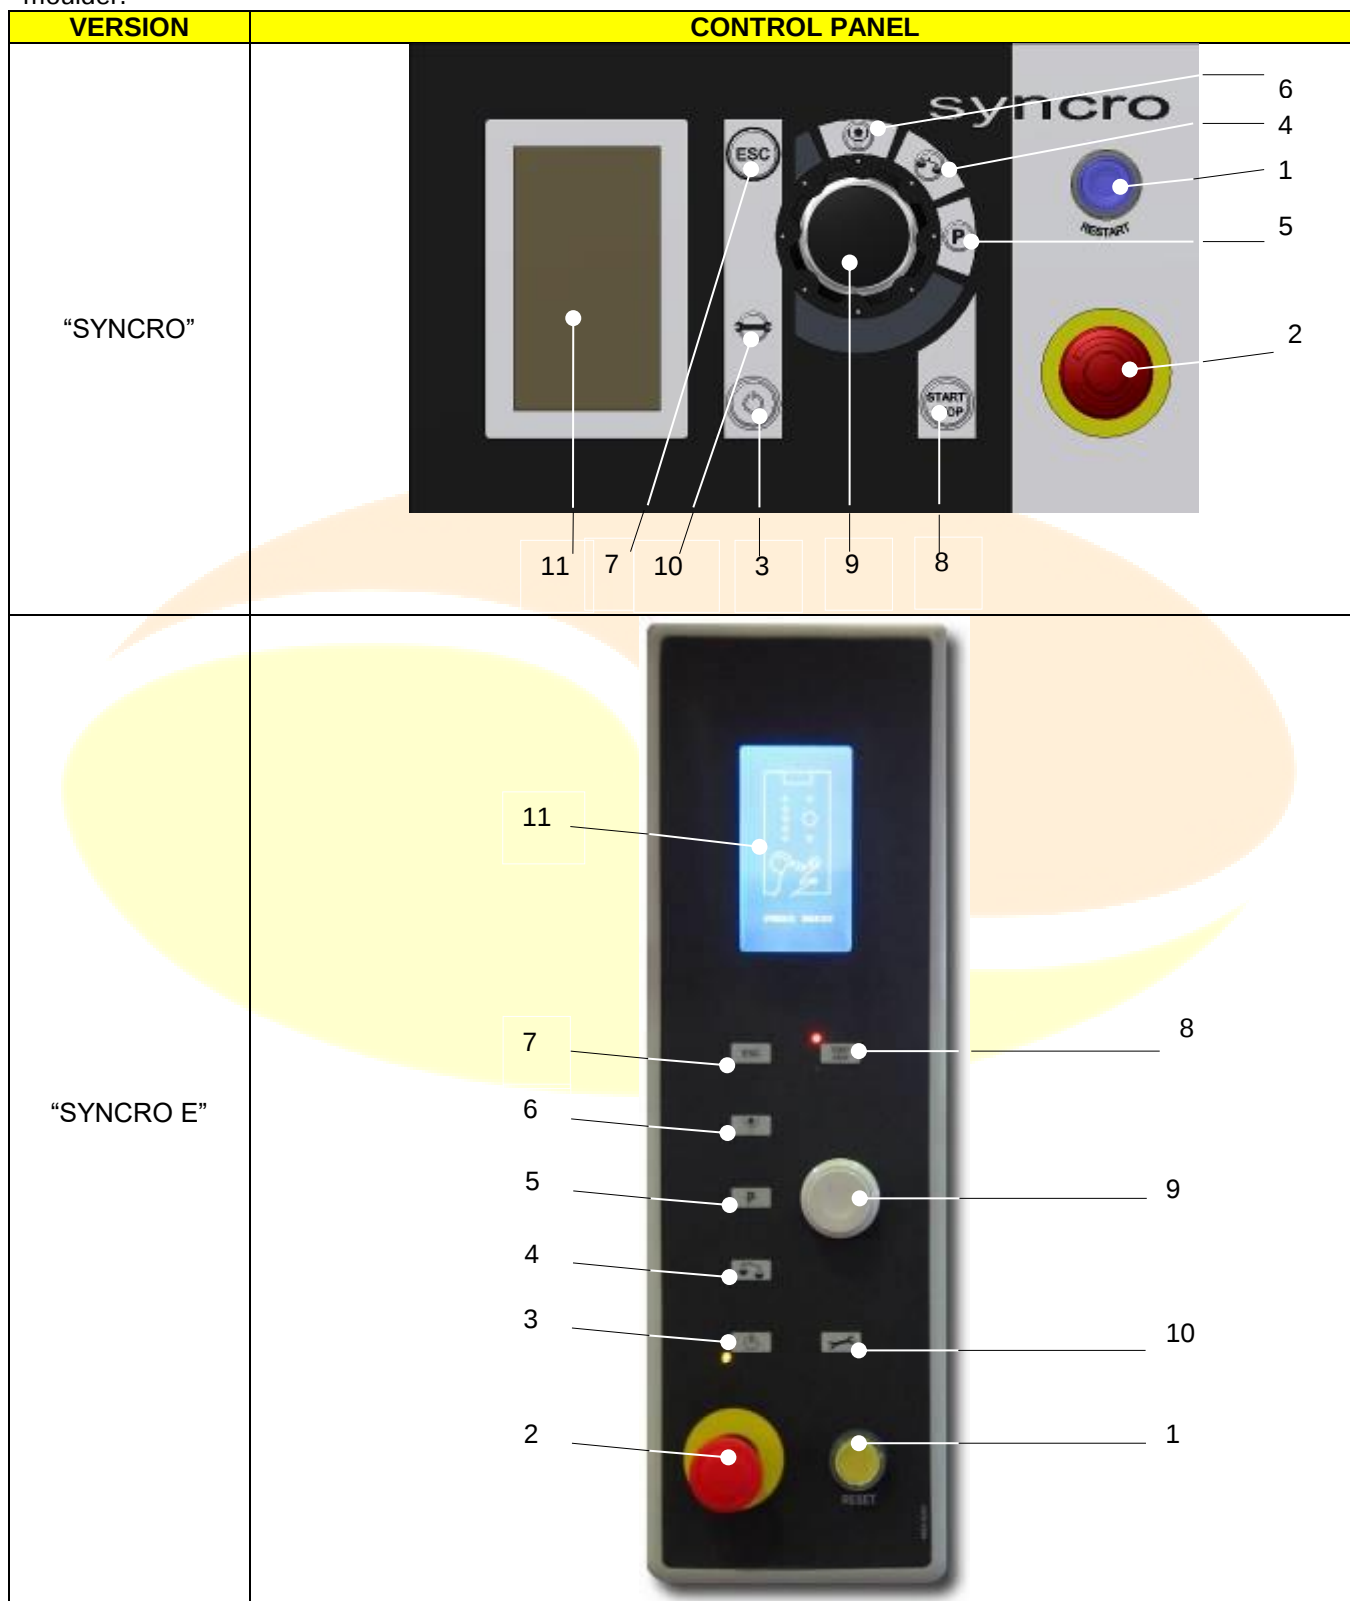
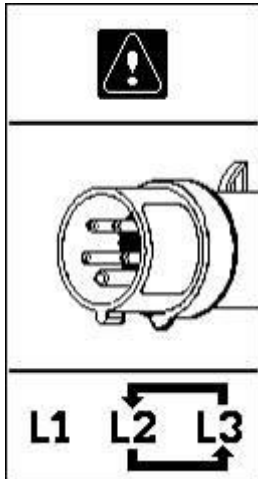

Figure 4 - Control panel
Figure 11 - Inverted phasing of the electrical power supply
When starting a new machine for the first time with a three-phase power supply, it is necessary to check the correct rotation direction of the motors. For this purpose, the machine is equipped with a device for monitoring the phasing of the electrical power supply so that, if the phases are inverted during the electrical connection, the control panel display will show the image in Figure 11 as soon as the machine is switched on. This would indicate the need to intervene on the electrical connection plug to invert the electrical phases. To turn on the machine, turn the main switch to **O –ON** Figure 3 and press the ON / OFF button on the control panel for a few seconds Figure 4 ref. 3. If the display does not show the aforementioned image when it is switched on, it is not necessary to reverse the electrical connection phases.
Next, press the RESET button Figure 4 ref. 1 and the following images should be displayed: this step indicates that the machine is ready to work and that the emergency situation that generated the immediate stop of the processing has been resolved, so the machine is in safe conditions.